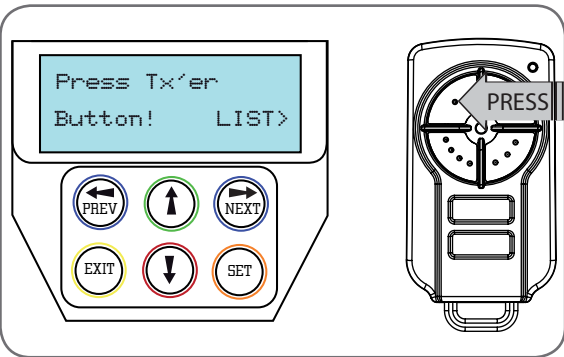

Fig 10.2
- b. Press the transmitter button you wish to use to operate the Gate Opener (e.g. button 1) **(Fig. 10.2)**.